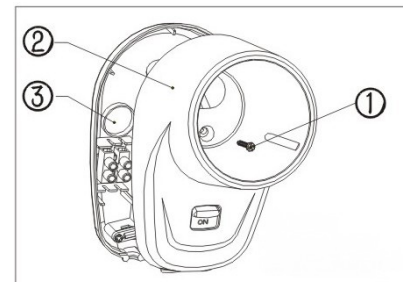

Fig. 3
- ❷ Loosen the screw marked 1 on Fig. 3 and remove the front of the holder.
- ❸ Remove the power cable that came with the dryer from the terminal block.
- ❹ Press to remove the plastic bit marked 3 on Fig. 3 to create cable entry for fixed installation. Pull the cable from the wall through the hole and slide the base plate of the holder in place onto the hanger, thus attaching the base plate. Connect cable to terminal block.
- ❺ Reattach the front of the holder and cover screw hole with the plastic cap enclosed. Fix the dryer onto the wall using the enclosed screw (marked 1 on Fig. 3).
- ❻ The unit is ready for use when plugged in, and when the power switch is in ON position.